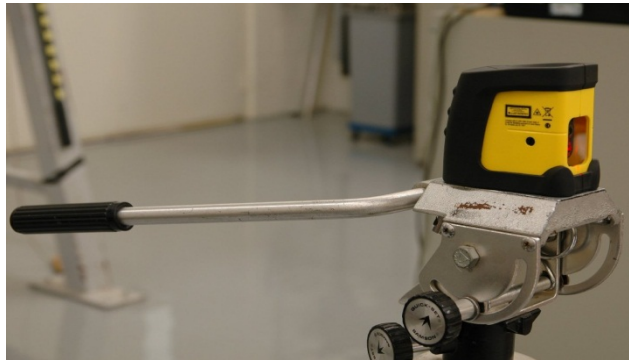

Figure 78. Laser line device set on tripod
- With the pendulum in its lowest resting position, draw a reference line along the bench support surface along the path of the pendulum; using a line laser device²² (set for vertical) positioned on a tripod (Figure 78) will aid in this process.